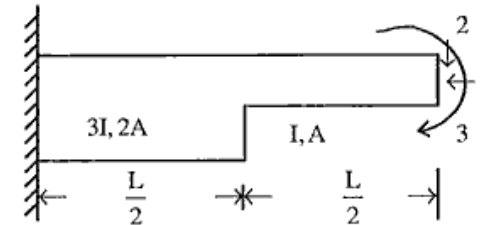

Figure 1
b) Compute the flexibility matrix considering axial and flexural deformations for the beam shown in figure 1.